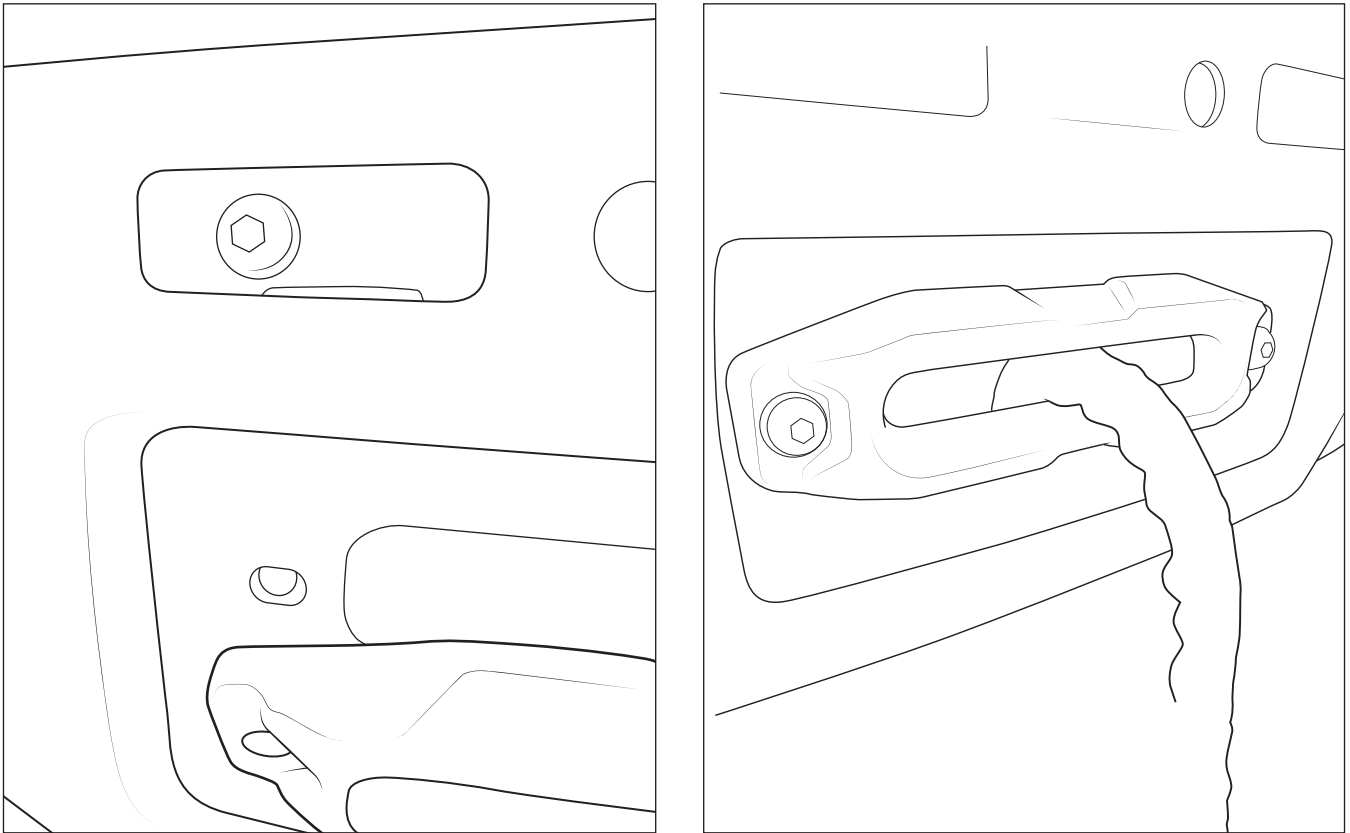

Figure 5
8. Move the winch into the designated slot of the stamping and insert the screws into the designated locations. Insert screws starting at the top (fig. 5 left) and working your way to the bottom. Leave the front a little loose to tighten after the bottom ones (fig. 5 right).